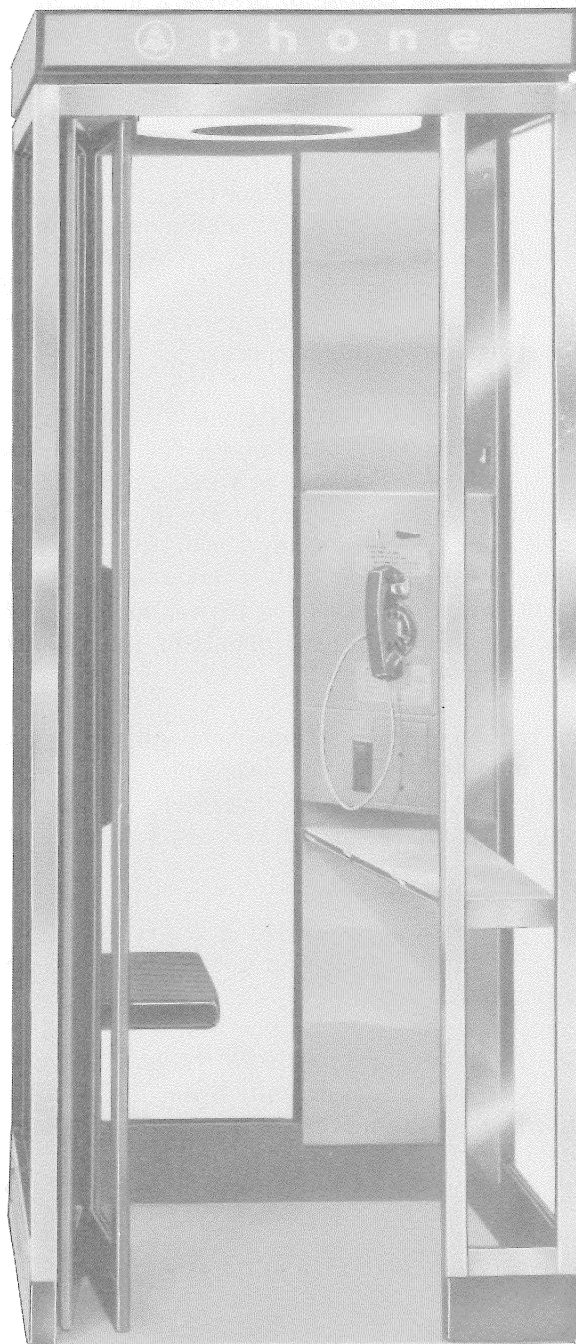

Fig. 1—KS-19442 Deluxe Glass Telephone Booth
1.02 The KS-19442 deluxe glass telephone booth is designed for indoor, sitdown service (Fig. 1). It may be used singly or in various multiple arrangements (side-by-side and/or back-to-back).
- 2.07** No floor is provided with this booth; however, a KS-19442, List 90 floor (Fig. 1) is available and can be used in single or multiple installations. The walls of the booth must be secured to the surface upon which they are placed if a List 90 floor is not used. Holes are provided in the lower wall extrusions for this purpose.